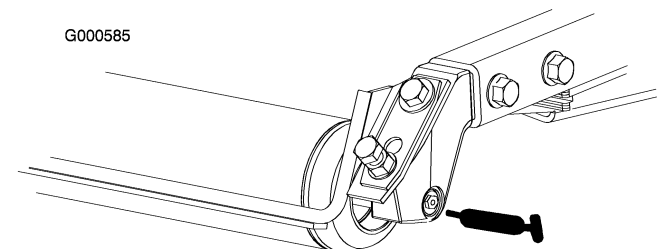

Figure 26
- Rear roller bearings (2 per cutting unit) (Figure 26)
Note: The flush fittings on the rollers (Figure 26) require a grease gun nozzle adapter. Order Toro Part No. 107-1998 from your Authorized Toro Distributor.